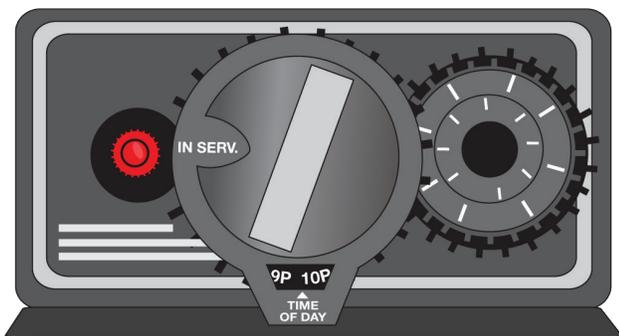

FIGURE 11 - IN SERVICE position
6. After the manual rinse cycle has been completed, turn the main dial on the filter unit to the **IN SERVICE** position [See Page 16, Figure 11]. Make sure the control lever is fully in the **IN SERVICE** position. Now, put the ScaleSolver outlet in the **IN SERVICE** position. Water will now be flowing through the whole Elite PowerPac to feed the house. **Remember to set the timer for self-cleaning to the current time of day.**